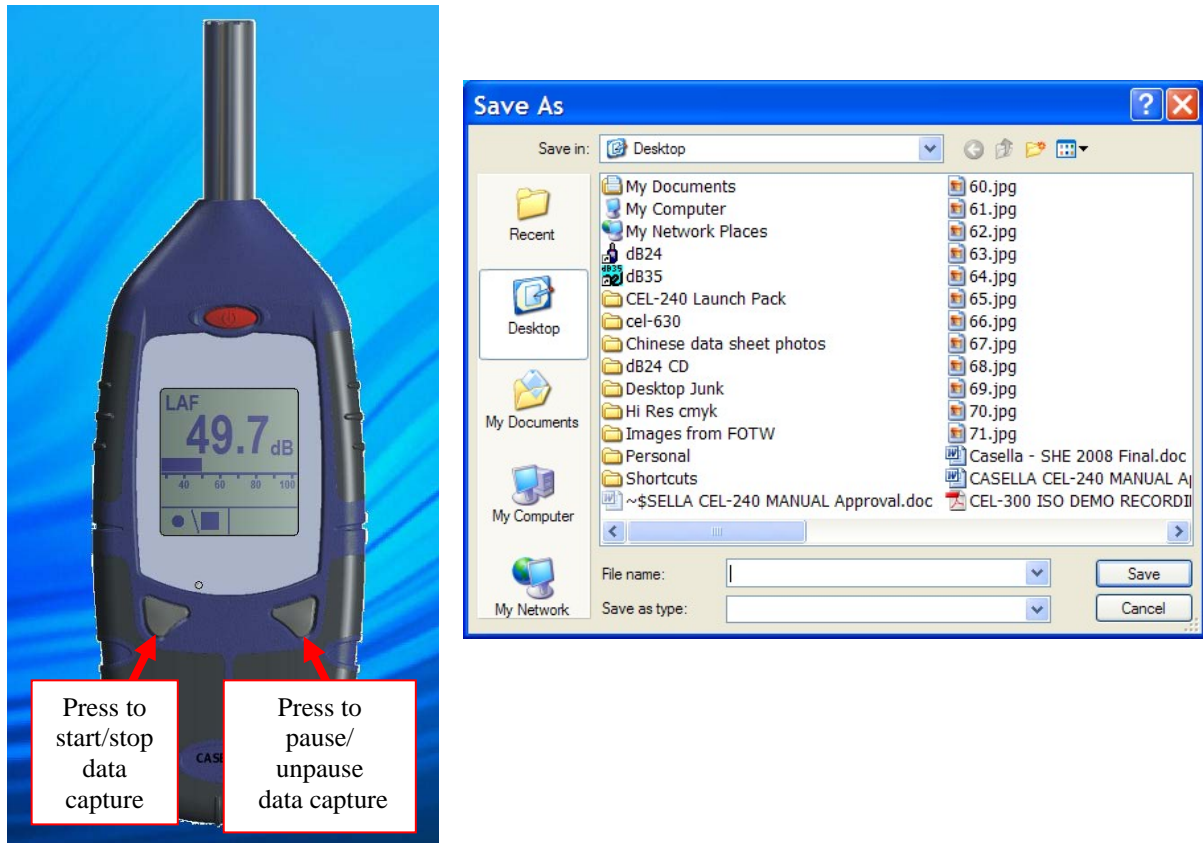

Figure 3: 'Save As' Window
3. A 'Save As' window is displayed. Select a suitable file name and location and press Save. (Figure 3). A red indicator on the virtual CEL-24X will flash during data capture.